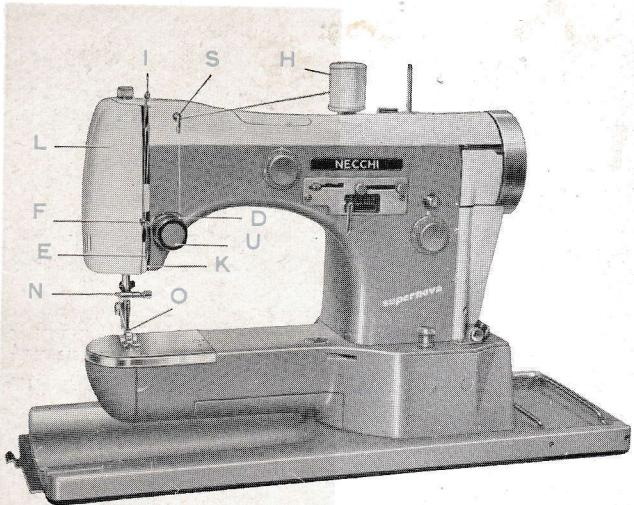

Fig. 13
In order to avoid breaking the upper (needle) thread, the machine must be threaded as follows: (Fig. 13 and diagram 13 a):
- Run spool thread along the machine arm and through the two holes in the arm thread guide S (Fig. 13).
Fig. 13 a